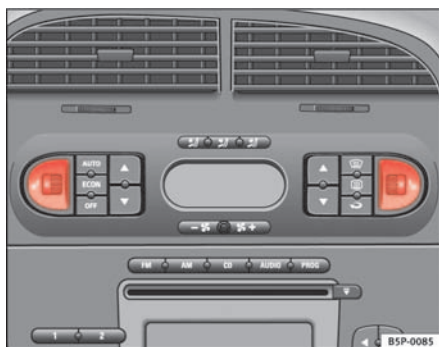

Fig. 96 Thumb wheel for the front seat heating
- Turn the appropriate thumb wheel  $\Rightarrow$  fig. 96 to switch on the seat heating. The seat heating is switched off in the 0 position.